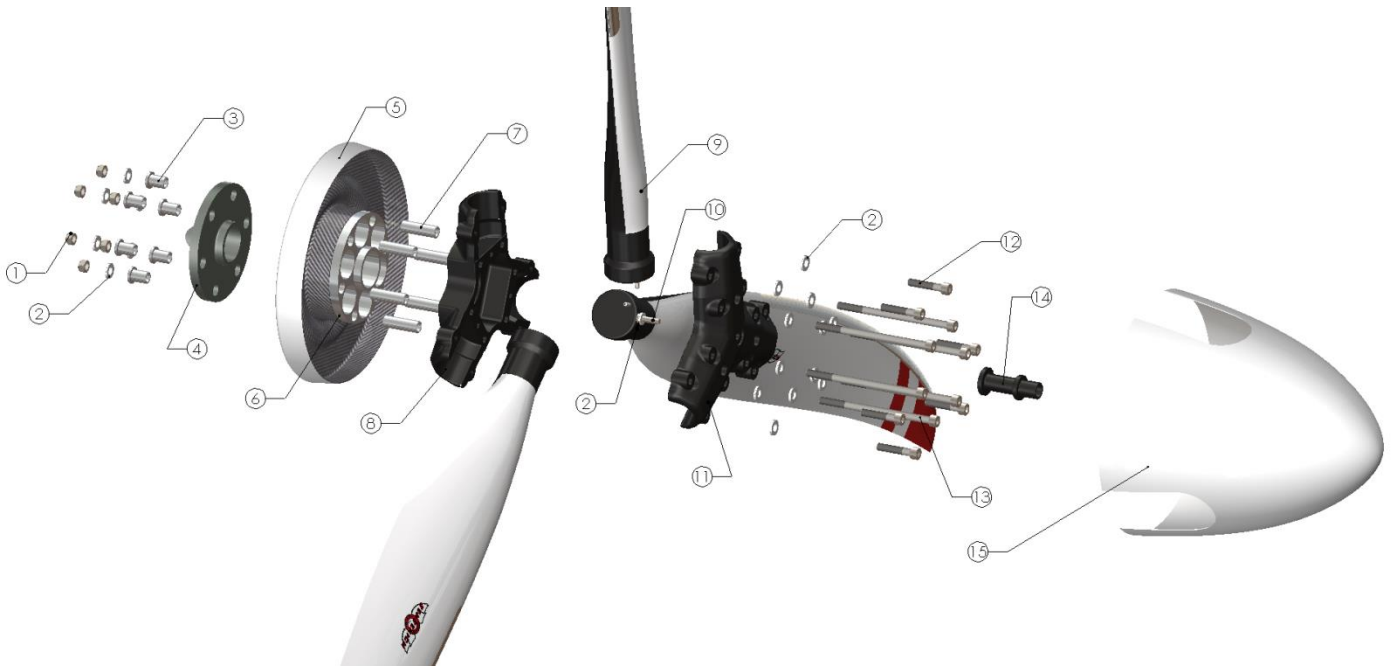

FIGURE 1. FLIGHT DESIGN PROPELLER ASSEMBLY
1. Refer to **Figure 1** for views of the two piece hub, blade, and pitch setting gage. Place the hub mount half flat on a suitable work surface with the engine side down.
11. Be certain that the aircraft magneto switch is "OFF" and that all magnetos are grounded any time the propeller is handled. Chock the aircraft wheels to prevent movement. Clean dirt and oil residue from the engine flange. Refer to **Figure 1** for a view of the two piece hub, blades, and pitch setting gage.
12. Slide the (6) Sensenich Rotax Bushings (A-1263) into the rear side of the flange. Place the Flight Design spacer with rear spinner bulkhead on the engine flange. Ensure all bushings slide into their respective holes. After spacer has been fitted, slide the 6 extended spacer bushings (A-1519) into the front side of the spacer while on engine flange.